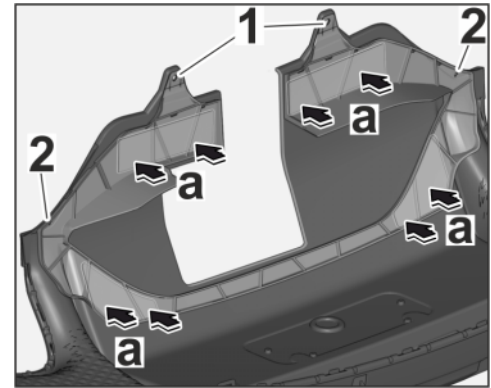

Figure 24
4.1.8 Press reinforcement firmly onto the rear panel (⇒ *Figure 24-a-*).